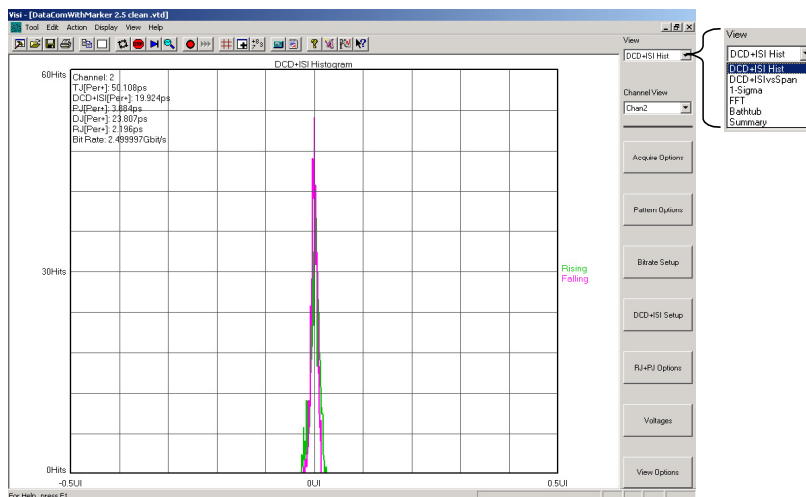

Figure 9 - dataCOM results.
You should see results similar to Figure 9. You can toggle through the different data plots by selecting the pull down menu under the 'View' heading (see Figure 9).
To view the results on every plot, click the "Values on Plot" button . If you get an error message "Failed..." see the Help under "Arm Delay" to fix this problem or rerun the arm placement described in Figure 7. This will give you the TJ and Bit Rate or Unit Interval (UI) measurements required by the PCI Express specification. You can also do extensive debug and analysis of the various components of jitter in the different plots generated by the dataCOM tool. To view these plots, select the pull down menu under the 'View' heading shown in Figure 9. See the Help for more information on the different views.